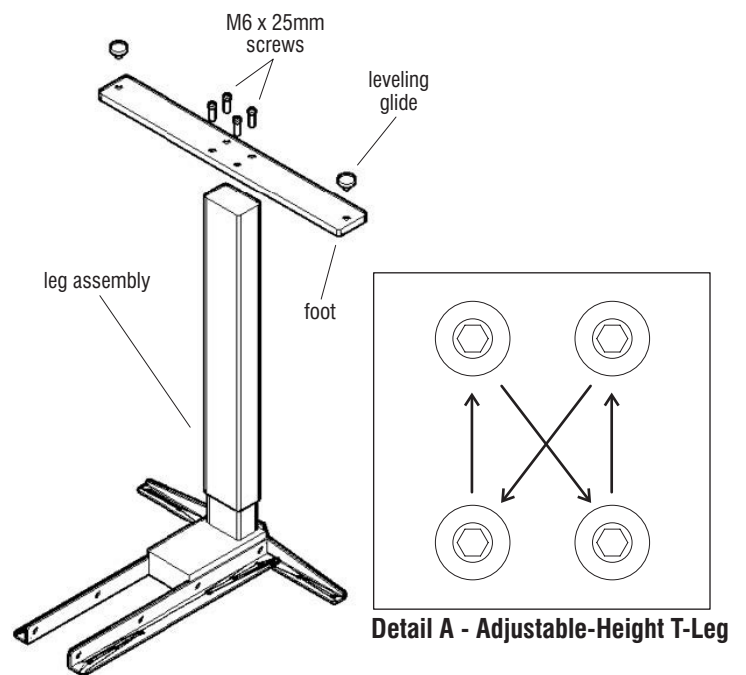

Figure 2 - Adjustable-Height T-Leg
4. Carefully turn leg assembly upside down on a soft, protective surface (Figure 2).
5. Place the foot over the column end of the leg assembly. Align the four mounting holes of the foot with the four mounting holes in the column and secure using four M6 x 25mm screws, tightening each screw one quarter turn at a time in a diagonal pattern until all four screws are tight (Figure 2 & Detail A).
6. Thread leveling glides into the holes at each end of the foot (Figure 2).